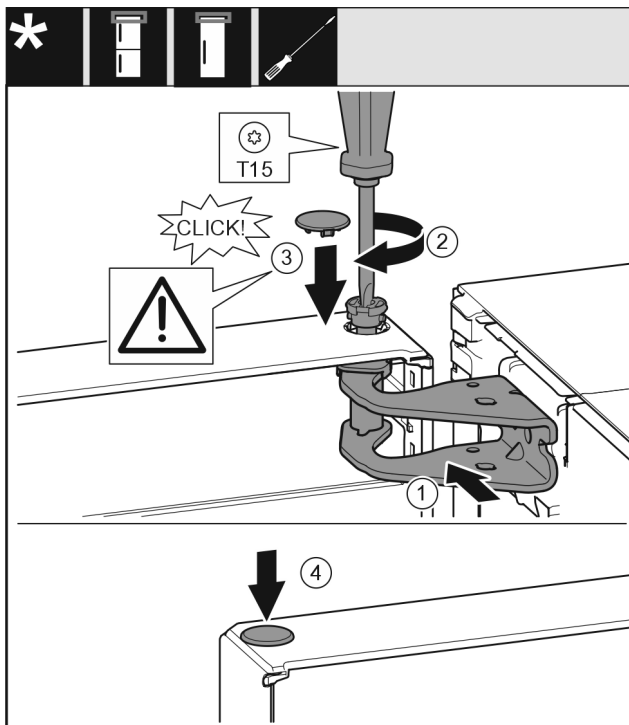

Fig. 17
- ▶ Align the top of the door with opening in the bearing bracket. Fig. 17 (1)
- ▶ Insert the bolt and tighten with a T15 screwdriver. Fig. 17 (2)
- ▶ Fit the protective cover to protect the door: Insert the protective cover and check that it is flush to the door. If not, insert the bolt fully. Fig. 17 (3)
- ▶ Insert the plugs. Fig. 17 (4)